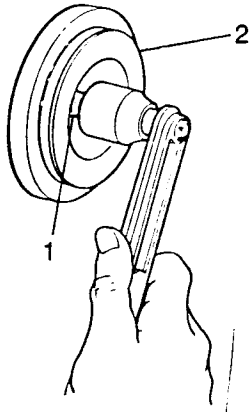

Fig B4.53
- (3) Refer to Fig B4.53. Loosen the retaining bolt (1) with special tool 18G98A and remove bolt.
- (4) Remove the assembly (2) from the shaft using suitable levers.
2. Replace the crankshaft pulley and vibration damper as follows: (Fig B4.53 still applies).